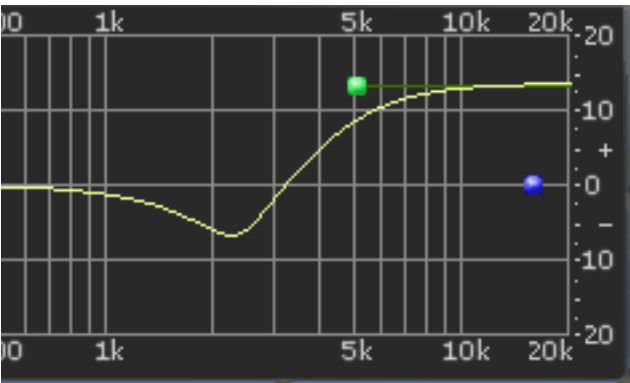
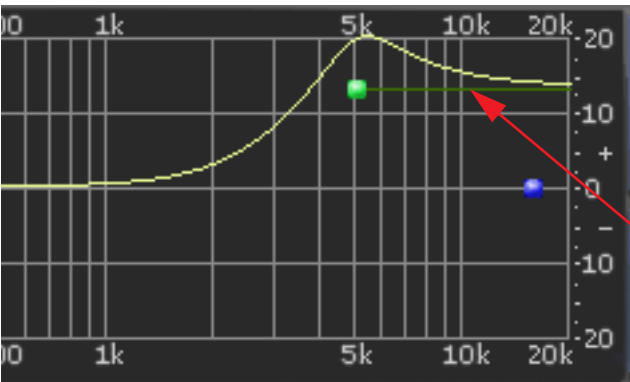
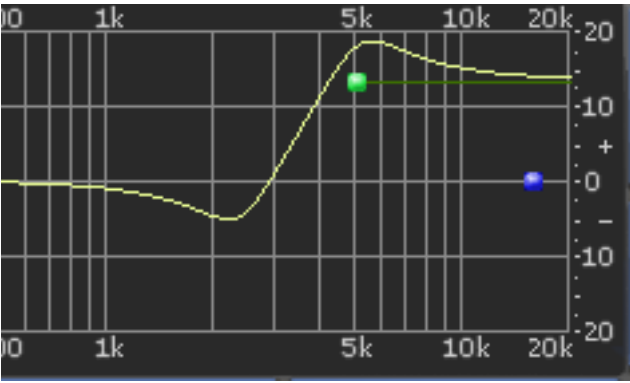

Figure 63. Shelf Type A
Figure 64. Shelf Type B
Figure 65. Shelf Type C
The button is green when shelving is enabled. Additionally, the control bat associated with the band has a horizontal shelf indicator line in the response curve display (see Figure 64 on page 174) when shelf mode is active.
The Shelf Type button places the resonant peak at (A) the edge of the stopband (Figure 63 on page 174), (B) the edge of the passband (Figure 64), or (C) at the edge of the stopband and the passband (Figure 65).